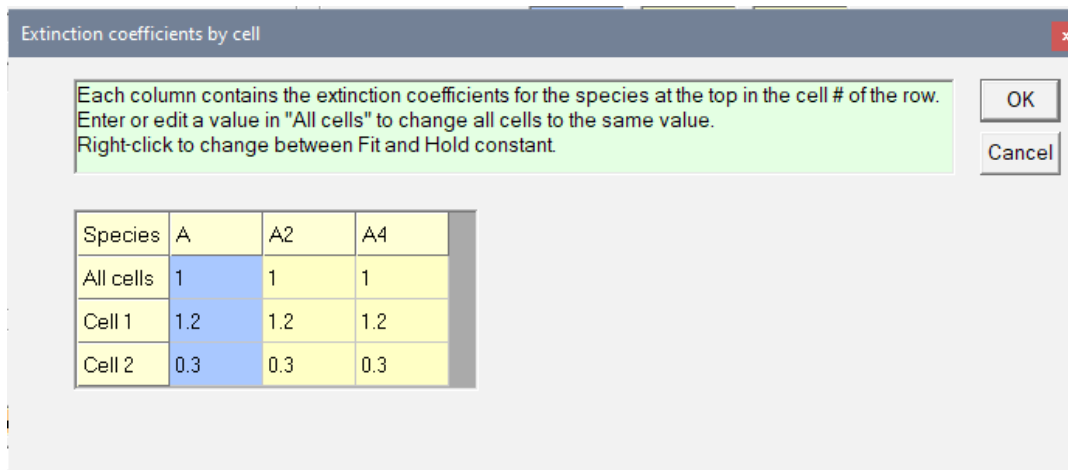

Figure 4-86 Extinction Coefficient Matrix
**⚠ NOTE:** Starting with version 7.40, SEDANAL allows a matrix of g coefficients to be filled in for each species in each cell. For example, (cf Figure 4-86) for the system  $2A=A_2$ ;  $2A_2=A_4$  and two cells, with, say, a 12mm and a 3 mm centerpiece, respectively, we would have the following matrix that would allow us to either fit or hold the extinction coefficients. (In this case, for example, we have assumed that the extinction coefficients do not change upon association.)